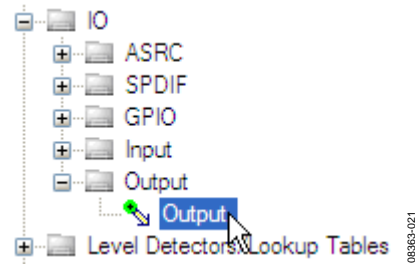

Figure 21. Locating an Output Cell
- b. Locate an **Output** cell, as shown in Figure 21.